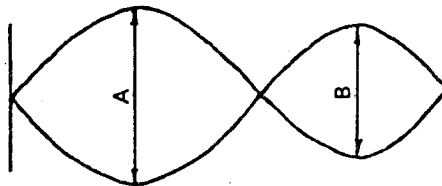

Fig. 3-5 TP2 + TP3
- 7) When the ratio (small/large) of the waveforms A to B in Fig. 3.5 is lower than 0.7, tighten the interrupter fixing screws (2) on the VCM unit.